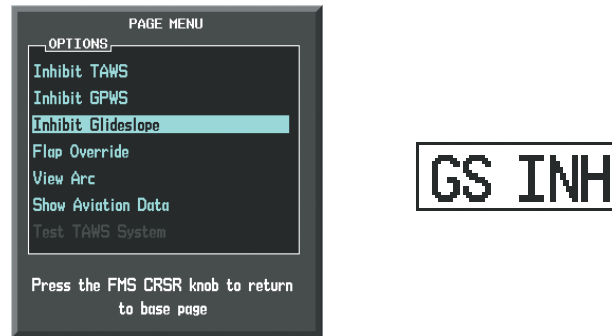

Figure 6-157 TAWS-A Page Menu and Glideslope Alerting Inhibited Annunciation
- 1) Press the **MENU** Key. (Figure 6-157)